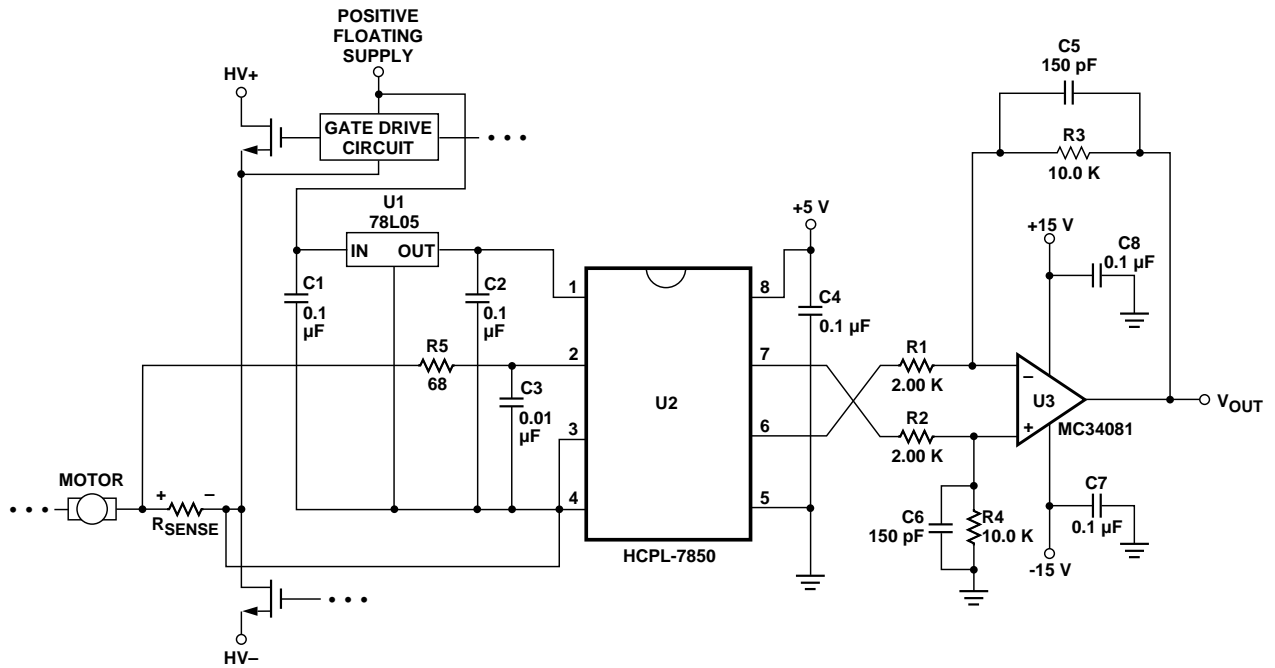

Figure 24. Recommended Application Circuit.
- CMR (also known as IMR or Isolation Mode Rejection) specifies the minimum rate of rise of a common mode signal applied across the isolation boundary at which small output perturbations begin to occur. These output perturbations can occur with both the rising and falling edges of the common mode waveform and may be of either polarity. A CMR failure is defined as a perturbation exceeding 200 mV at the output of the recommended application circuit (Figure 24). See Applications section for more information on CMR.
The recommended application circuit is shown in Figure 24. A floating power supply (which in many applications could be the same supply that is used to drive the high-side power transistor) is regulated to 5 V using a simple three-terminal voltage regulator (U1). The voltage from the current sensing resistor, or shunt (Rsense), is applied to the input of the HCPL-7850 through an RC anti-aliasing filter (R5, C3). And finally, the differential output of the isolation amplifier is converted to a ground-referenced
As shown in Figure 24, a 0.1  $\mu\text{F}$  bypass capacitor (C2, C4) should be located as close as possible to the input and output power supply pins of the HCPL-7850. The bypass capacitors are required because of the high-speed digital nature of the signals inside the isolation amplifier. A 0.01  $\mu\text{F}$  bypass capacitor (C3) is also recommended at the input pin(s) due to the switched-capacitor nature of the input circuit. The input bypass capacitor should be at least 1000 pF to maintain gain accuracy of the isolation amplifier.
The recommended method for connecting the isolation amplifier to the shunt resistor is shown in Figure 24. Pin 2 ( $V_{\text{IN}+}$ ) is connected to the positive terminal of the shunt resistor, while pin 3 ( $V_{\text{IN}-}$ ) is shorted to pin 4 (GND1), with the power-supply return path functioning as the sense line to the negative terminal of the current shunt. This allows a single pair of wires or PC board traces to connect the isolation amplifier circuit to the shunt resistor. In some applications, however, supply currents flowing through the power-supply return path may cause offset or noise problems. In this case, better performance may be obtained by connecting pin 3 to the negative terminal of the shunt resistor separate from the power supply return path. When connected this way, both input pins should be bypassed. Whether two or three wires are used, it is recommended that twisted-pair wire or very close PC board traces be used to connect the current shunt to the isolation amplifier circuit to minimize electromagnetic interference to the sense signal.
The recommended application circuit (Figure 24) includes a post-amplifier circuit that serves three functions: to reference the output signal to the desired level (usually ground), to amplify the signal to appropriate levels, and to help filter output noise. The particular op-amp used in the post-amp is not critical; however, it should have low enough offset and high enough bandwidth and slew rate so that it does not adversely affect circuit performance. The offset of the op-amp should be low relative to
To maintain overall circuit bandwidth, the post-amplifier circuit should have a bandwidth at least twice the minimum bandwidth of the isolation amplifier, or about 200 kHz. To obtain a bandwidth of 200 kHz with a gain of 5, the op-amp should have a gain-bandwidth greater than 1 MHz. The post-amplifier circuit includes a pair of capacitors (C5 and C6) that form a single-pole low-pass filter. These capacitors allow the bandwidth of the post-amp to be adjusted independently of the gain and are useful for reducing the output noise from the isolation amplifier (doubling the capacitor values halves the circuit bandwidth). The component values shown in Figure 24 form a differential amplifier with a gain of 5 and a cutoff frequency of approximately 100 kHz, and were chosen as a compromise between low noise and fast response times. The overall recommended application circuit has a bandwidth of 66 kHz, a rise time of 5.2  $\mu\text{s}$  and a delay to 90% of 8.5  $\mu\text{s}$ .